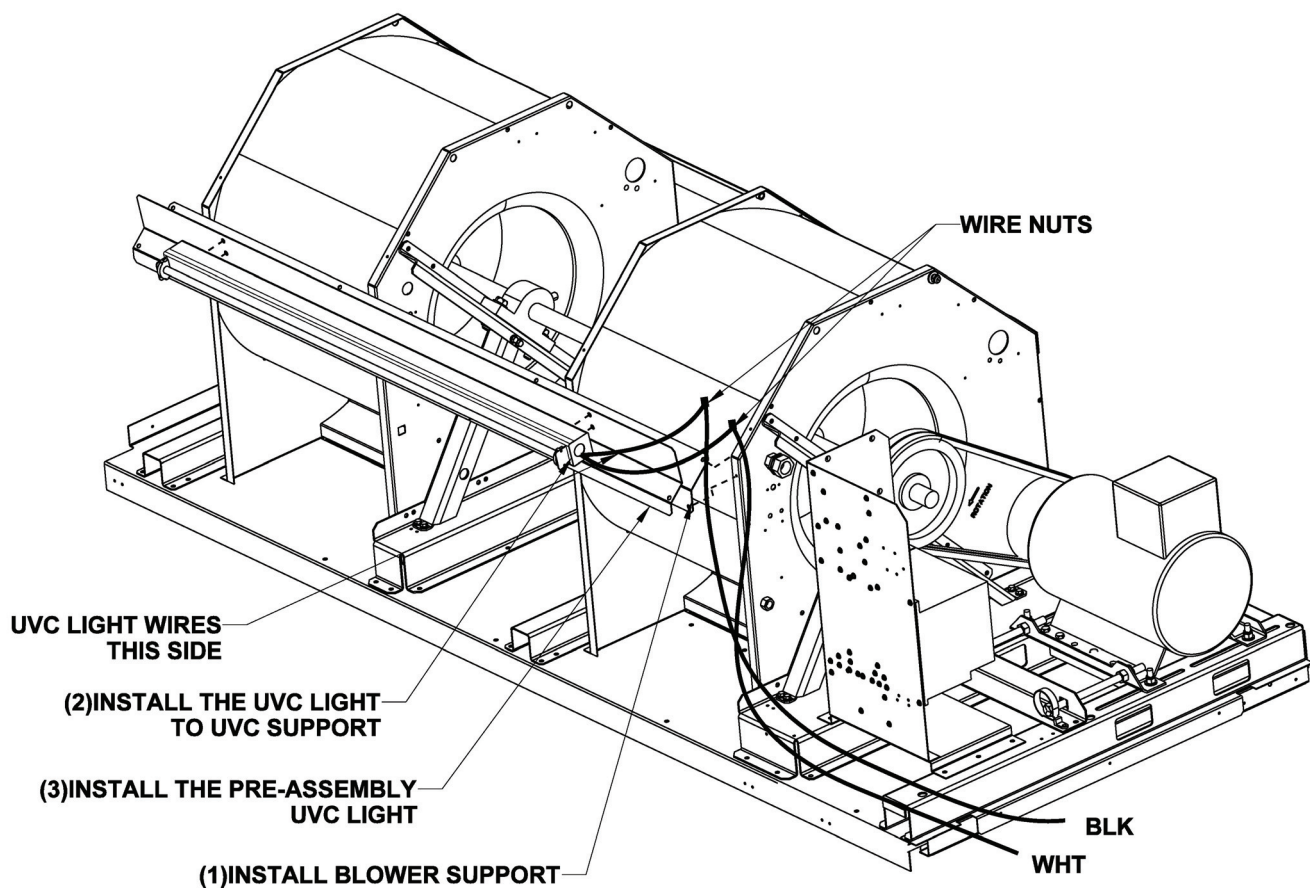

Fig. 15 — Blower Support Installation
4. Install the Blower Support with the new holes (1), attach the UVC light to the UVC support (2), install the sub-assembly of the UVC/Support to the Blower Support (3) with wires facing the Motor Blower. (See Fig. 15.)
5. Locate and install black/white 24 in. wires to UVC leads with provided wire nuts. Use the bushing for protecting sharp edges. (See Fig. 15.)